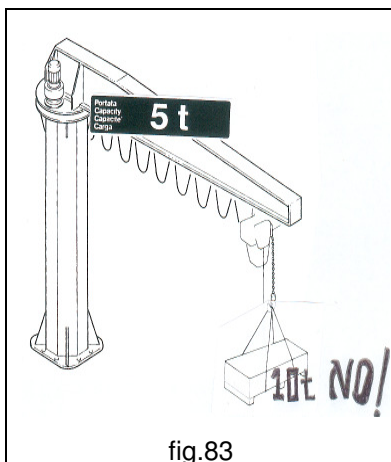

fig.83
- **NEVER** lift loads heavier than the nominal lifting capacity nor equip the crane with hoists with a nominal lifting capacity greater than that of the crane itself (fig.83).